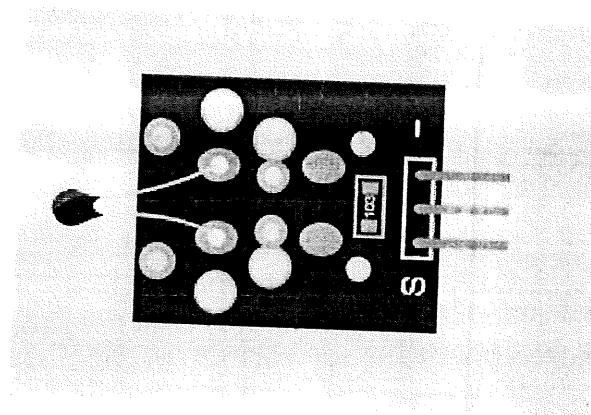

**Figure 2: Keypad and LCD**
- i. Referring to the LCD and keypad in figure 2, **produce** the wiring diagram between these devices and the Pi Pico microcontroller. For Pi Pico pin out, refer to figure 2 in question 2. (10 marks)